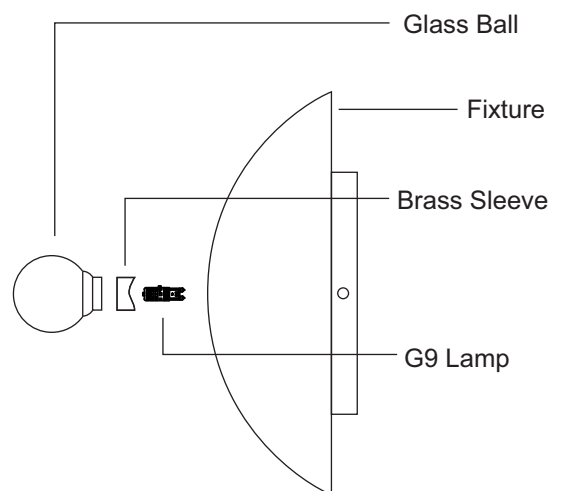

FIGURE-03
7. Attach glass ball to the fixture, insert the metal sleeve provided over the G9 socket & thread the glass ball on the fixture. (See Figure-03)